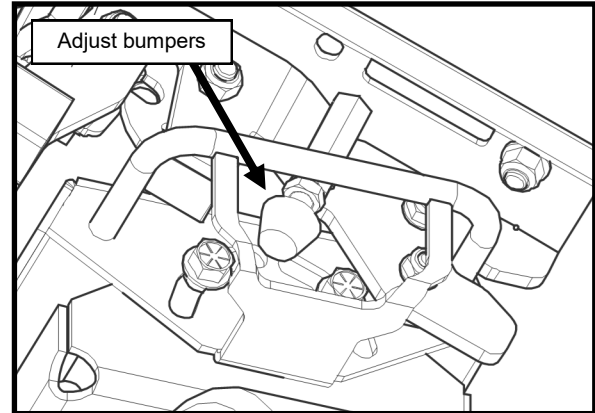

Fig. 5a (Adjust Bumpers)
5. Loosen the jam nut on each bumper (see figure 5a), then mount and latch the canopy per fig. 5b. With one hand, push upwards on the canopy to take up the play in the latches. With the other hand, unthread both bumpers down finger tight to the striker plate. Unlatch and pivot the canopy up to further unthread each bumper equally one full turn at a time. Re-latch and check latching resistance after each adjustment. The bumpers should stabilize the canopy and it should require downward force to latch, but not so much that double clicking the latches becomes difficult. Unlatch a final time and tighten the jam nut on each bumper to 10 ft-lbs.